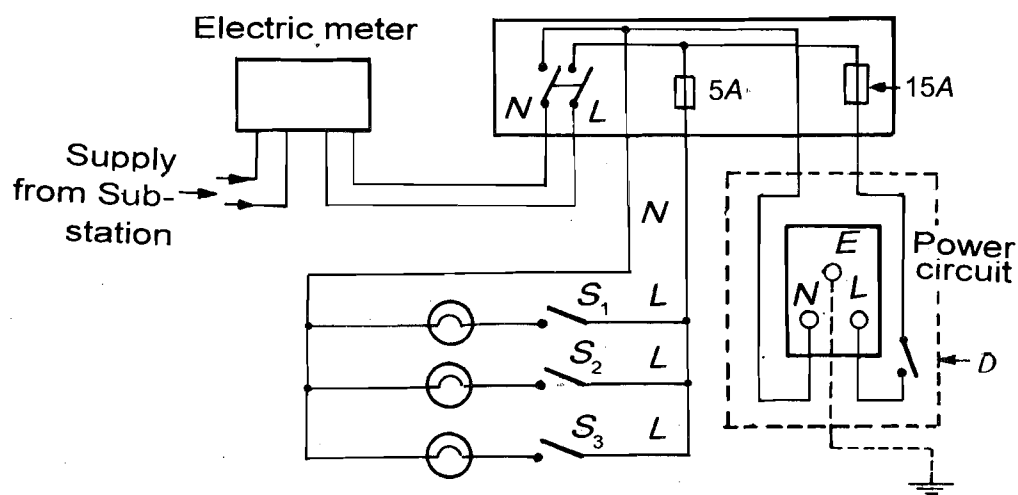

Fig.7.1: A typical laboratory wiring system
Fig.7.1 shows a typical laboratory wiring. Some of its salient features are:
- a) The switch such as S_1 is always connected in the **live (L)** wire of the circuit so that when it is **off**, the socket (or the bulb holder) is not live. However, if the switch is connected in the neutral wire, the socket is live even when the switch is in off position (see margin remark on page 57). In such a condition, anyone touching the socket or the bulb holder would get a shock. For this reason, you should fix switches in the extension board along the live wire.
- c) Although neutral wire of the circuit is earthed at the electric substation, for extra safety, the power circuit (Fig.7.1) contains an additional earth wire E .